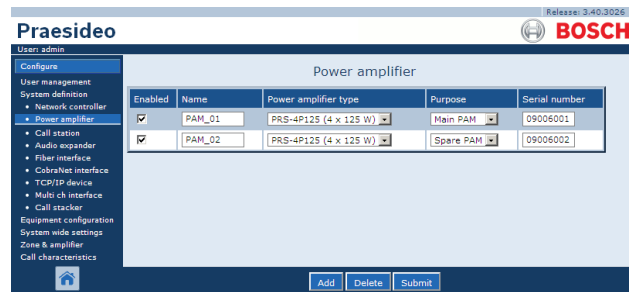

figure 42.9: Delete power amplifier, step 2
- Click anywhere in the row of the power amplifier that has to be deleted from the system definition. The entire row is highlighted (see figure 42.9).